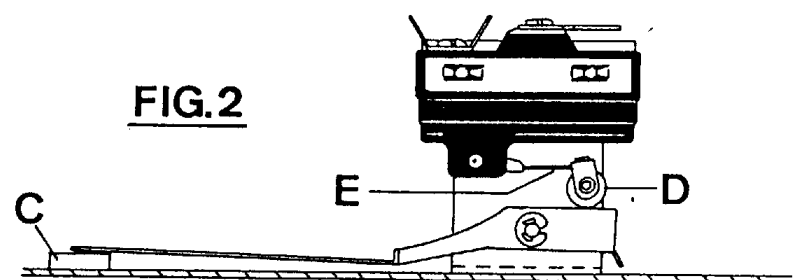

**FIG. 3**
4. Maximum opening of air switch must be no greater than  $\frac{3}{4}$ " (20 mm) (figure 3). Bend tab "F" in or out to maintain this dimension.